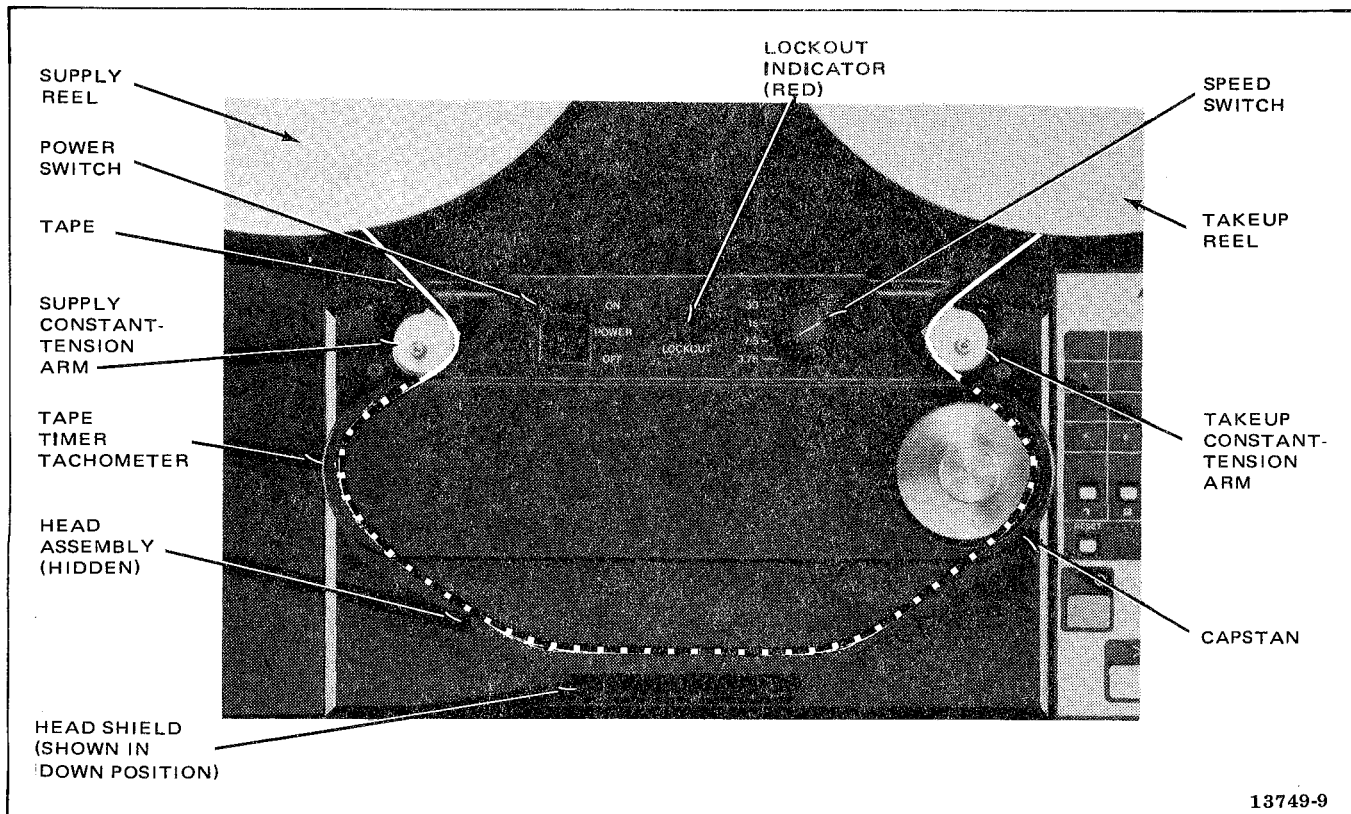

Figure 3-1. Tape Threading Path
See Figure 3-1 and perform the following pre-operational procedure.
Figure 3-1. Reels up to 14 inches (16.54 cm) in diameter and in any size combination may be used. (Note: If reels larger than 11-1/2 inches (29.21 cm) are used, reel motors must be in the "outer" position. Refer to paragraph 2-22).
6. Thread tape on transport as shown in Figure 3-1. The tape path is from the supply reel, around the inside of the supply constant-tension arm, around the tape timer wheel, across the head assembly, around the capstan, around the inside of the takeup constant-tension arm, and onto the takeup reel.